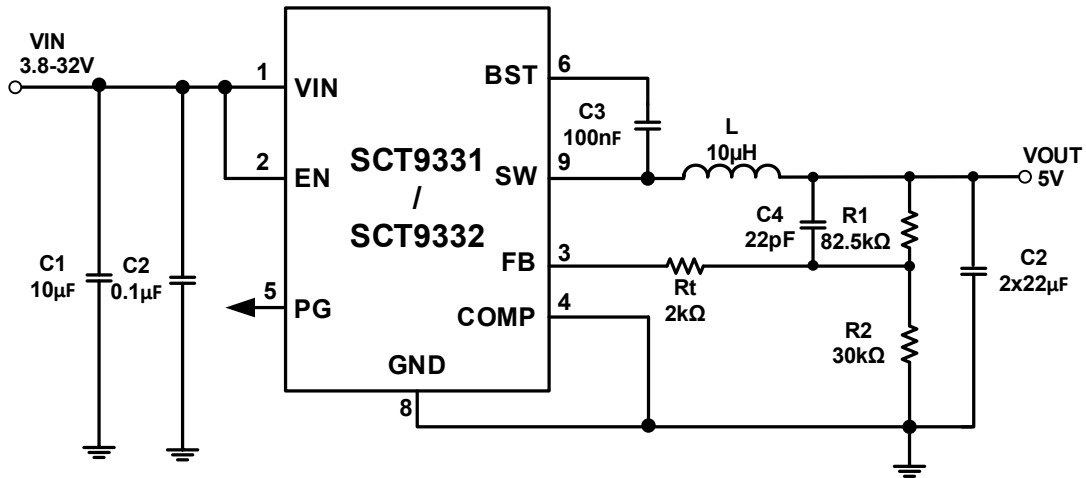

Figure 11. 24V Input, 5V/3.5A Output with Internal Compensation
The SCT9331/SCT9332 features external programmable output voltage by using a resistor divider network R1 and R2 as shown in the typical application circuit Figure11. Use equation (11) to calculate the resistor divider values.